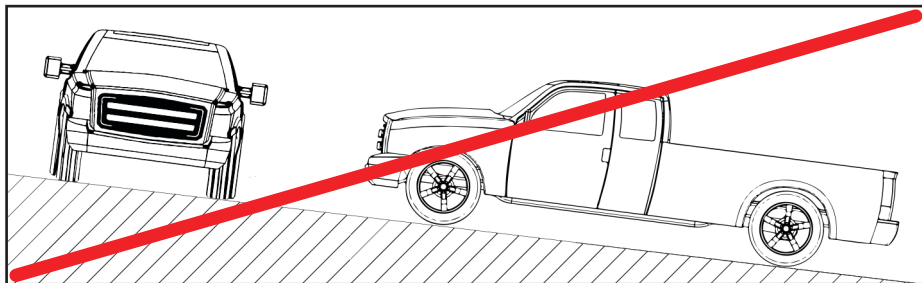

Figure 14 — Do not exceed 20° grade
- ☐ Ensure the vehicle the system is mounted to is not parked on grades exceeding 20° as this will affect lubrication and air/oil separation (Figure 14).